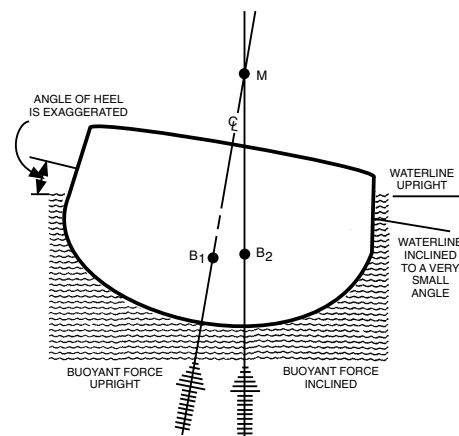

Figure 12-22. The metacenter.
A ship's METACENTER (M) is the intersection of two successive lines of action of the force of buoyancy, as the ship heels through a very small angle. Figure 12-22 shows two lines of buoyant force. One of these represents the ship on even keel, the other at a small angle of heel. The point where they intersect is the initial position of the metacenter. When the angle of heel is greater than the angle used to compute the metacenter, M moves off the centerline and the path of movement is a curve.